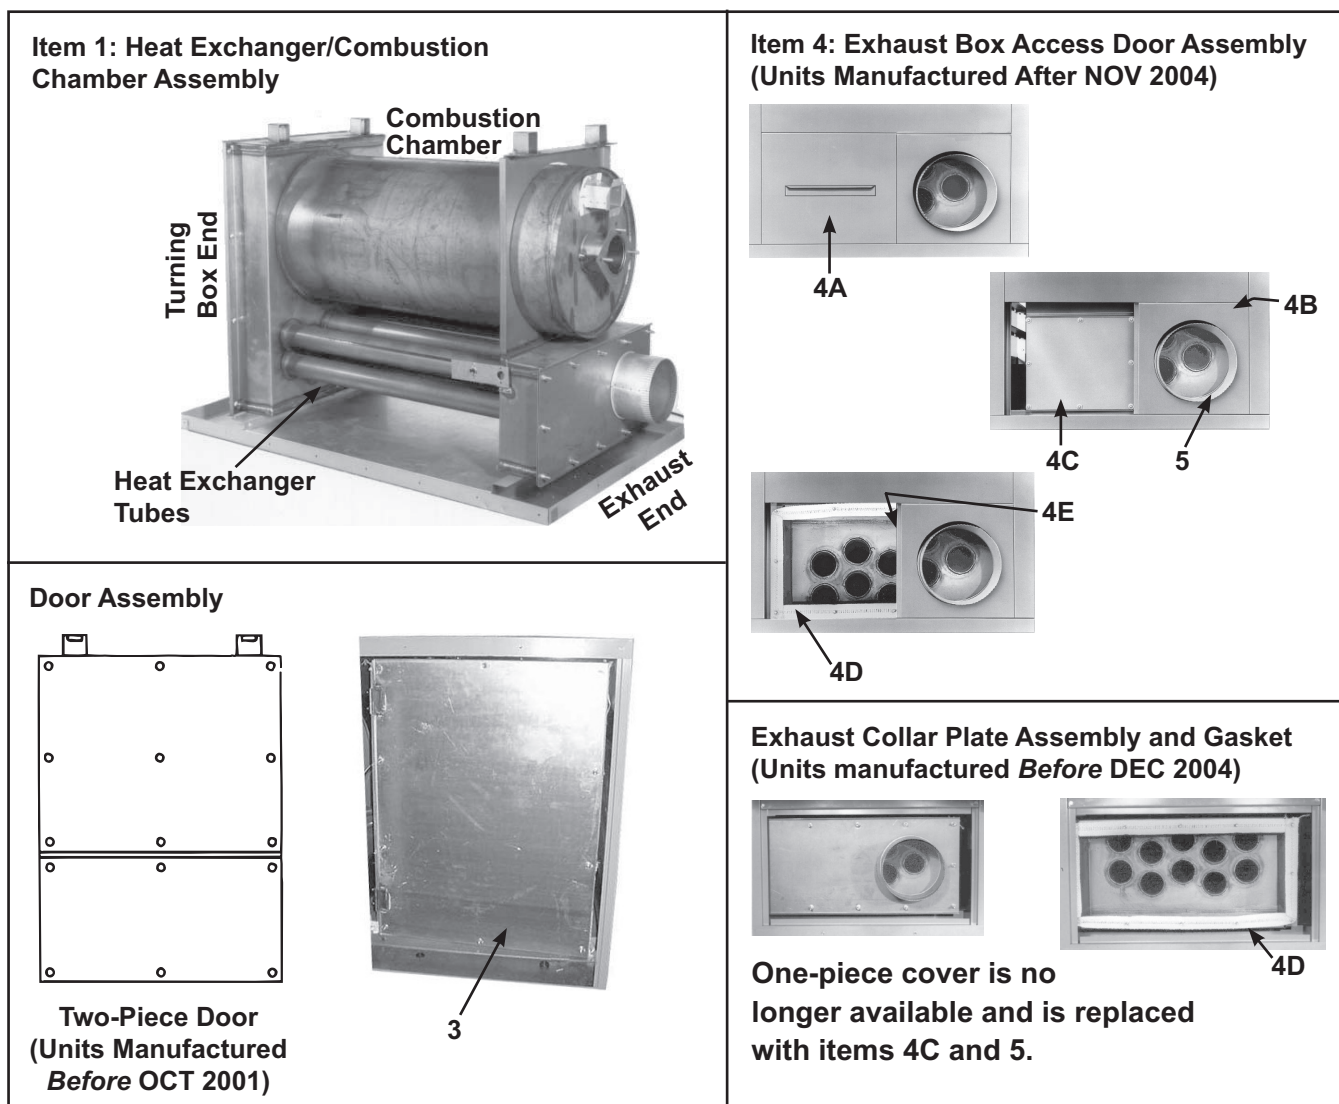

Figure 27. Heat Exchanger/Combustion Chamber and Exhaust Box Assemblies—RA and RAD Models, Unit Size 350 (Refer to Table 18)
- Heat exchanger/combustion chamber assembly and exhaust box components for RA and RAD models—unit size 350—are shown in Figure 27 and listed in Table 18.